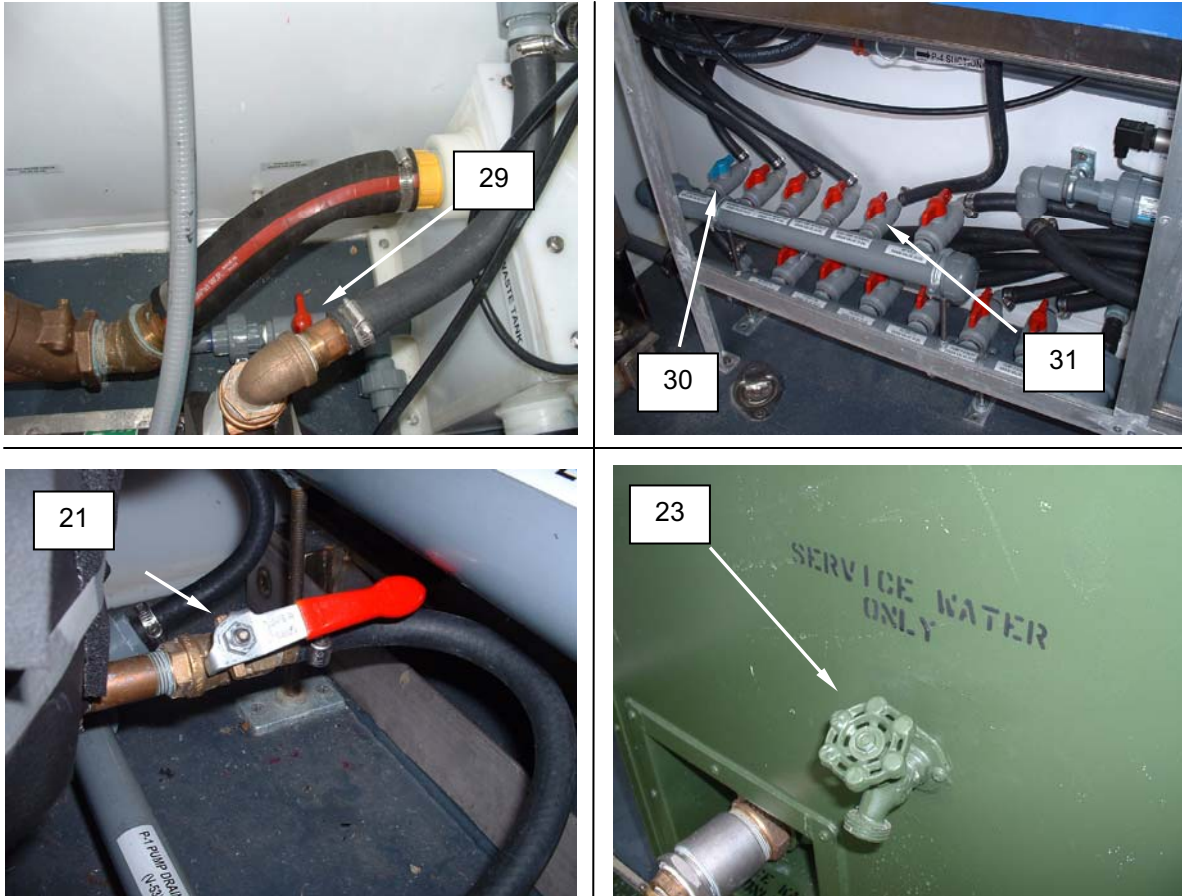

Figure 22. Drain System.
29. Open main waste valve V-36 (Figure 22, Item 29). Close valve V-36 after valve has drained.
30. Close valve V-24 (Figure 22, Item 31), P-1 Pump drain V-53 (Figure 22, Item 21), and spigot (Figure 22, Item 23). Close valve V-23 (Figure 22, Item 30) after valve has drained.